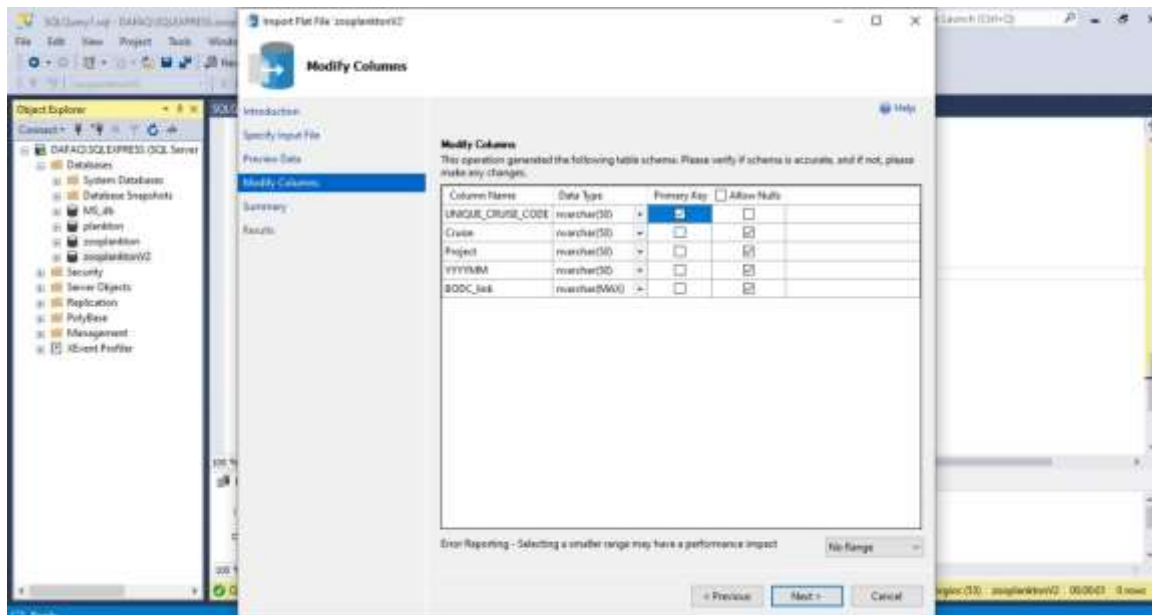

Figure 34 Cruises table
---Create new table CRUISES using task import flat file (Figure 34)